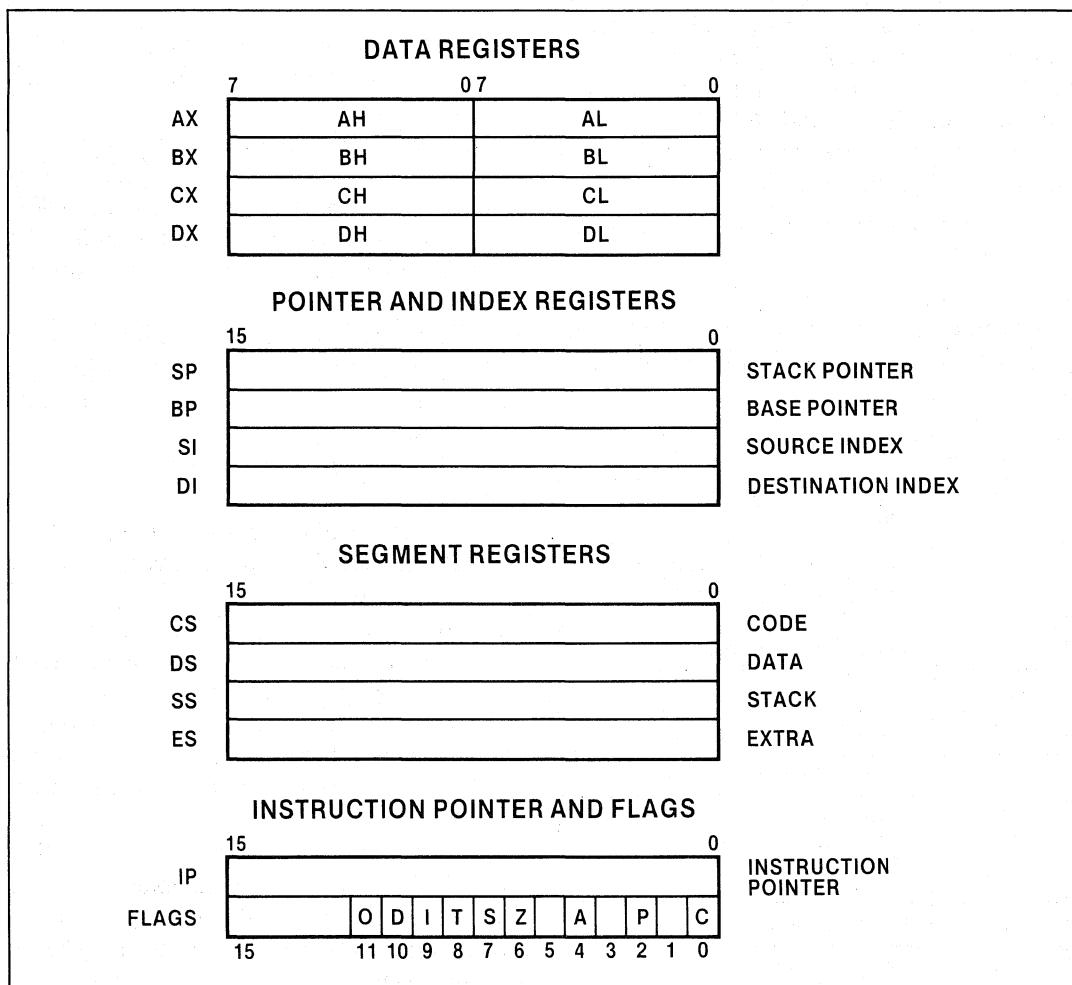

Figure 2-2. 8088 Register Structure
The 8088 processor contains the thirteen 16-bit registers and nine 1-bit flags shown in Figure 2-2. Notice that the thirteen registers are divided into three files of four registers each plus the thirteenth register, namely the instruction pointer (IP) (called the program counter in earlier processors). The IP is not directly accessible to the programmer; it is manipulated with control-transfer instructions.
The data registers (top file Fig. 2-2) can be addressed as either 8- or 16-bit registers. (Note vertical line showing byte divisions).
The data registers handle both byte and word quantities with equal ease. Figure 2-2 shows that the 16-bit registers are named AX, BX, CX, and DX; and the 8-bit registers are named AL, AH, BL, BH, CL, CH, DL, and DH (the L or H suffix designates high-order or low-order byte).
Generally, the data registers participate interchangeably in both arithmetic and logical operations of the 8088. However, some instructions (e.g. string instructions) require certain general registers for specific uses. Figure 2-3 shows which registers are implicitly used for special operations. Notice how Figure 2-3 relates to Figure 2-2.
To review, data registers may be addressed as either 8-bit or 16-bit registers as shown in Figure 2-2. The registers in the next 2 files are addressed *only* as 16-bit registers.
The pointer and index registers of the 8088 consist of the 16-bit registers SP, BP, SI, and DI as shown in Figure 2-2. These registers usually contain offset addresses for addressing within a segment. They reduce program size by eliminating the need for each instruction to specify frequently used addresses. These registers serve another (and perhaps more important) function; they provide for dynamic logical address computation as described in the section on operand addressing below. To accomplish this, the pointer and index registers participate in arithmetic and logical operations along with the 16-bit data registers described above.
Figure 2-2 shows this file divided into the pointer subfile (SP and BP) and the *index* subfile (SI and DI). The pointer registers provide convenient access to the current stack segment (as opposed to the data segment). Unless otherwise specified in the instruction, pointer registers refer to the current stack segment while index registers refer to the current data segment.
In certain instances, specific uses of these four registers are indicated by the mnemonic phrases "stack pointer," "base pointer," "source index," and "destination index." (Fig. 2-2).
Six flags provide processor status information (Fig. 2-2). Five are the 8080/8085 flags and usually reflect the status of the latest arithmetic or logical operation. The sixth, an OVERFLOW flag, reflects a signed overflow condition.
Three additional control flags (Fig. 2-2) can be set and cleared by programs to alter processor operations:
The 16-bit instruction pointer (IP), as shown in Figure 2-2, is analogous to the program counter (PC) in the 8080/8085 CPUs and points to the next instruction. The instruction pointer contains the offset (distance in bytes) of the next instruction from the beginning of the current code segment. During normal execution, IP contains the offset of the next instruction to be fetched. Whenever IP is saved on the stack, however, it first is automatically adjusted to point to the next instruction to be executed. Programs do not have direct access to the instruction pointer, but instructions cause it to change and to be saved on and restored from the stack.